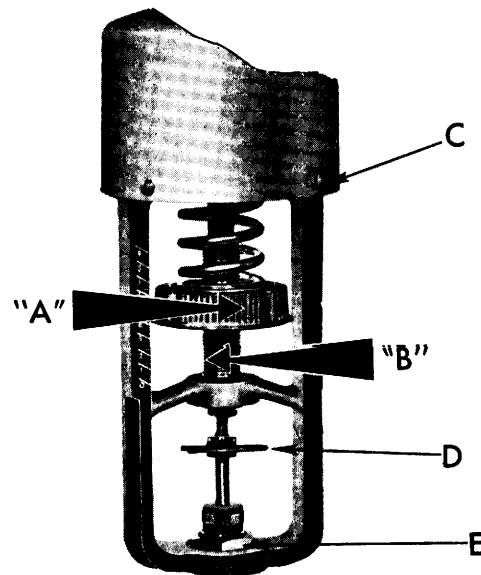

Fig. 4
To RAISE temperature setting, turn adjustment wheel to RIGHT (See arrow "A") (Fig. 4).
To LOWER temperature setting, turn adjustment wheel to LEFT (See arrow "B") (Fig. 4).
3. Turn adjusting wheel to left (see arrow "B" Fig. 4) until wheel is all the way down.
4. Remove screws "C" (Fig. 4) and lift off element.
1. Remove lock pin "D" (Fig. 4). (Do not disturb lock nut connecting regulator stem to connector).
2. Remove lock nut "E" (Fig. 4) and lift regulator frame off valve body.